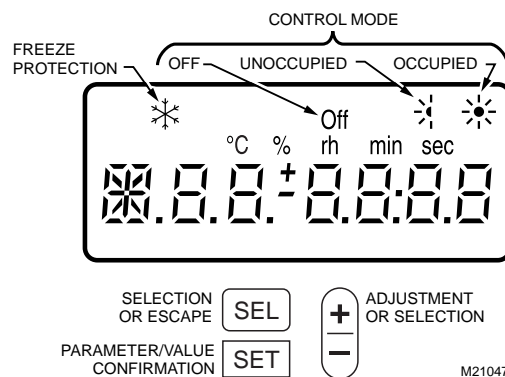
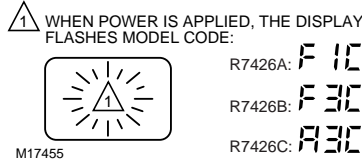

Fig. 17. R7426 user interface.
Fig. 18. Controller Version.
The user interface is shown in Fig. 17.
After power-up, the controller version and revision number blink for approximately 20 seconds (See Fig. 18) and then the controller enters standard display mode (see Fig. 17). In this mode, selected input/output values are displayed.
- When the battery is running low, the display provides an indication of this (see Fig. 17).